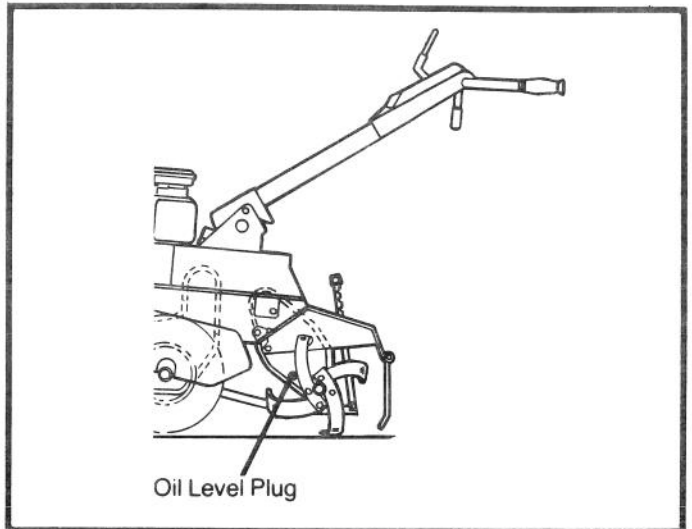

FIGURE 11A
3. Wipe dirt away from oil level plug and remove plug, Fig. 11A. Oil should be up to the bottom of hole.